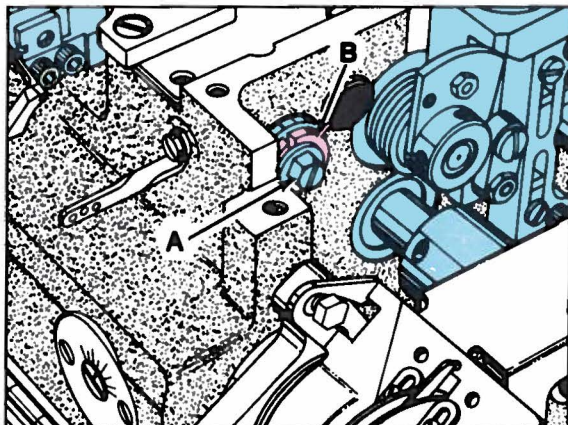

Fig. 16
NOTE: More or less "FEED LIFT" can be acquired by loosening screw (A, Fig. 16) and turning adjusting dial (B) towards the operator to increase feed lift, turning away from operator acts the reverse; retighten screw (A). Ensure that feed dog does not strike throat plate or looper throughout its path of travel.